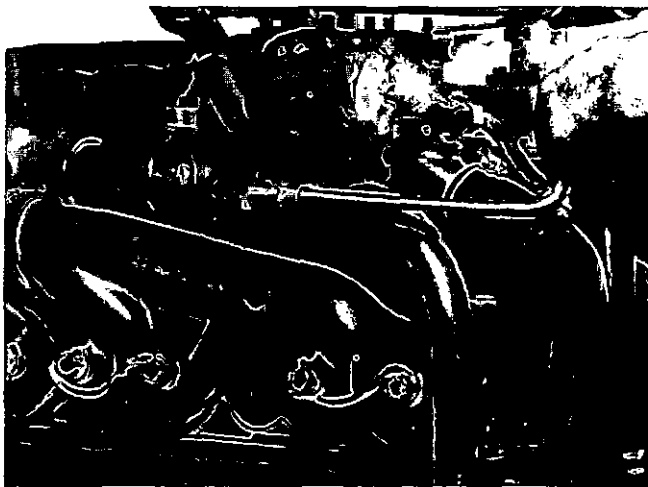

Fig. 14-80. Install The Water Transfer Tube.
7. Install new O-rings onto the water transfer tube. Install the tube into the thermostat housing and the oil cooler. Tighten the retaining capscrew to 30 to 35 ft.-lbs. [40.6 to 47.4 N•m] torque, Fig. 14-80.